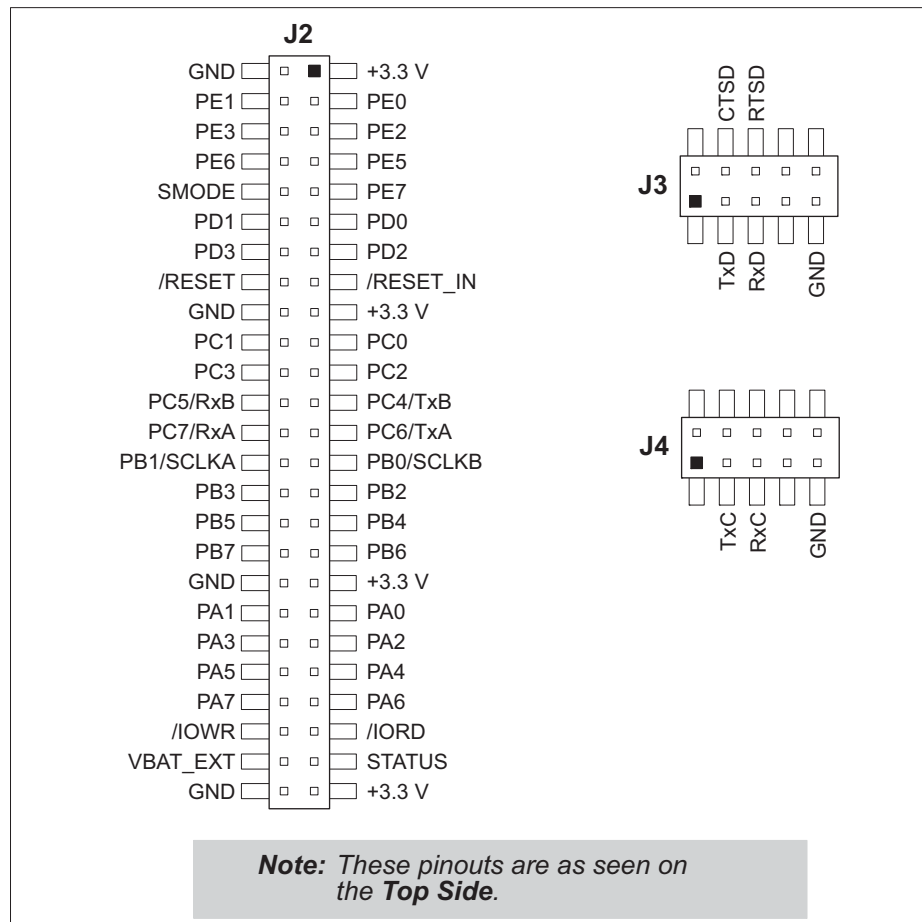

Figure E-4. Serial Communication Accessory Board Pinout
- **Module Extension Headers**—The complete pin set of the RCM5600W module is duplicated below header J2. Developers can solder wires directly into the appropriate holes, or, for more flexible development, a 2 × 25 header strip with a 0.1" pitch can be soldered into place. See Figure E-4 for the header pinouts.
The Serial Communication accessory board provides the user with RCM5600W connection points brought out conveniently to labeled points below header J2. The pinouts for header socket J2 and the RS-232 headers at J3 and J4 are shown in Figure E-4.